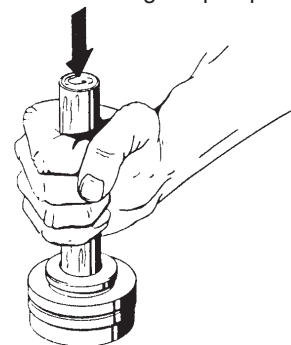

Figure 4-2
8. If the seal seat (#12.5B) must be reused, use a wooden dowel sized to fit through the hole in the seal cup to tap it out.(refer to figure 4-2) Ceramic seal seats are particularly easy to damage. Normally, always replace the seats when servicing the pump.